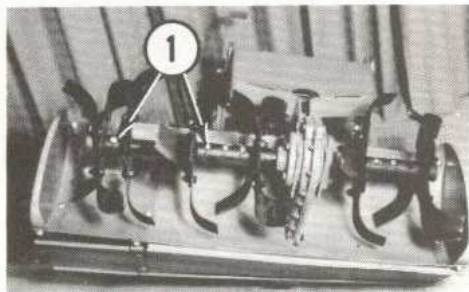

FIG. 16
2. Install tine extension and tine shaft extension. Install pins (1) and secure with cotter pins as in Fig. 16.